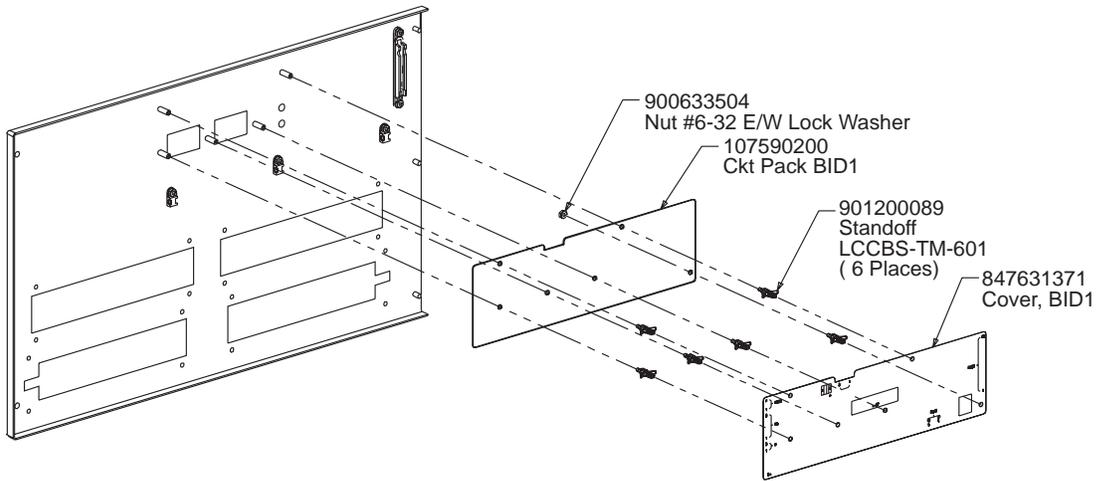

Figure 4-7: Door assembly
11. Mount the BID1 LVD/Fuse board to the distribution door assembly as shown in Figure 4-7.
12. Use the #6-32 nut to secure the sixth standoff in place on the BID1 circuit pack. (See Figure 4-7). Mount the clear cover provided to the BID1 LVD/Fuse Board standoffs.